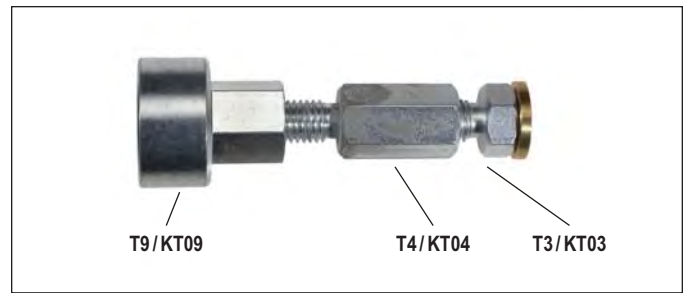
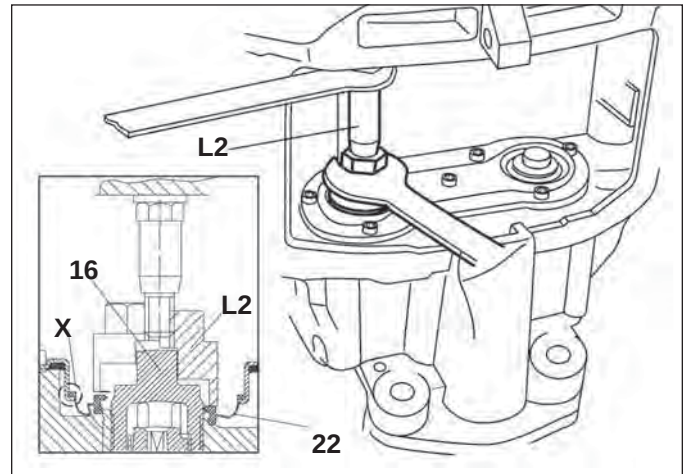

FIGURE 54 - ON-VEHICLE INNER SEAL INSTALLATION TOOL (L2)
FIGURE 55 - OFF-VEHICLE INNER SEAL INSTALLATION
5.5.13 Position the replacement inner seal (22) over the threaded tube (16). See Figures 54 and 55 for the tools and installation arrangement used. The threaded tubes need to be retracted to allow the tool to be inserted. Use the combination tool L2 (T4 + T3 + T9) with the long spacer (T4) as shown in Figure 55. Since the installation tool is guided by the center post of the threaded tube, advance the tube a small amount to align the tool and the center post. Install the new inner seal (22) into position by rotating the adjuster nut on the T4 portion of the tool using an open-ended wrench.